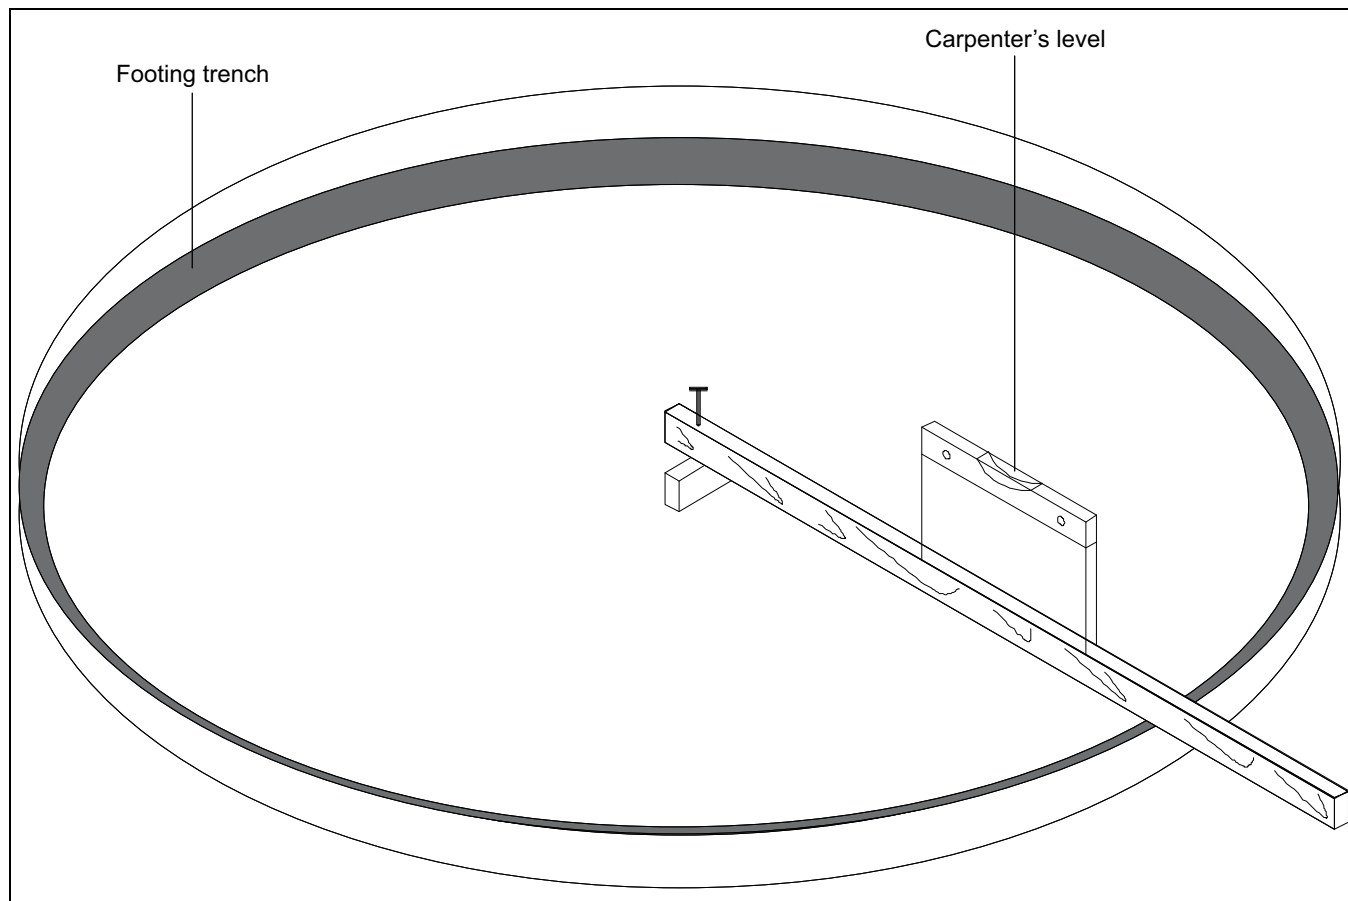
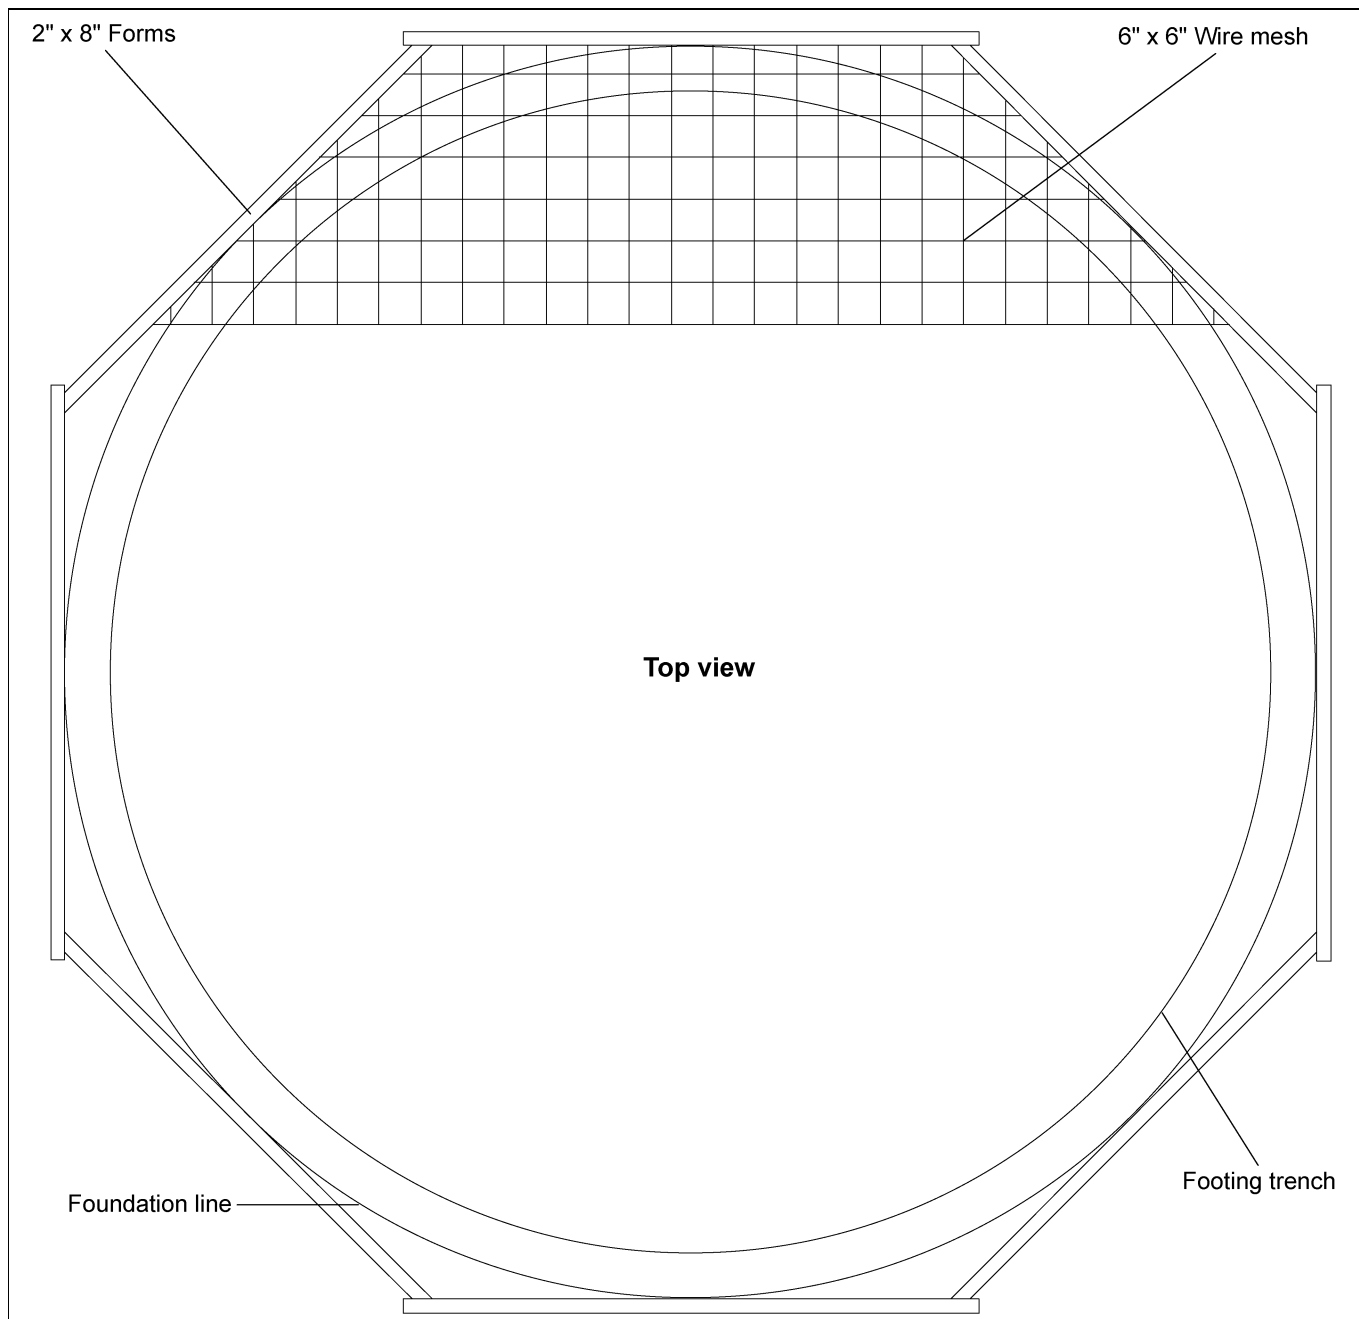

Figure 3B
Figure 3C
Having scribed the diameter of the foundation, proceed by digging the footing of the foundation. This consists of a large circular trench dug just inside the foundation line. (Refer to foundation details for necessary information.) Once the footing has been dug, you are ready to build the forms. It is important that the form be rigid enough to hold its shape against the poured concrete. Also, the foundation must be flat. Sloped floors cannot be used in drying bins. A carpenter's level placed on top of the 2 x 4 will enable you to set the top of the forms to match the top of the center stake. Check the form work with a transit to ensure a uniform elevation for the entire foundation. (See Figure 3B.)
There are two (2) styles of foundation forms commonly used. The first is the circular form depicted in Figure 3B on Page 10. The second style can be made of 2" x 8" boards set into a square with corners blocked off to form an octagon. (See Figure 3C.) This eight (8) sided form will approximate a circle and can be constructed quite easily.